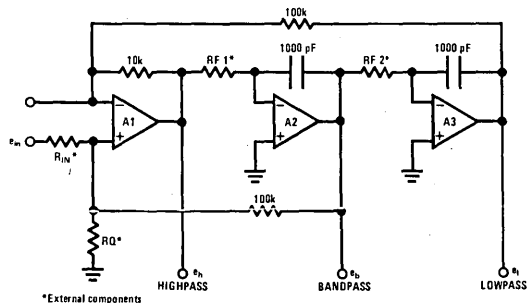

FIGURE 2. Non-inverting Input ($Q > Q_{MIN}$). See Q Tuning Section
The specific transfer functions for some of the most useful circuit configurations using the AF160 are illustrated in *Figures 2 through 8*. Also included are the gain equations in the frequency band of interest, the Q equation, center frequency equation and the Q determining resistor equation.
a) Non-inverting input (Figure 2) transfer equations are: